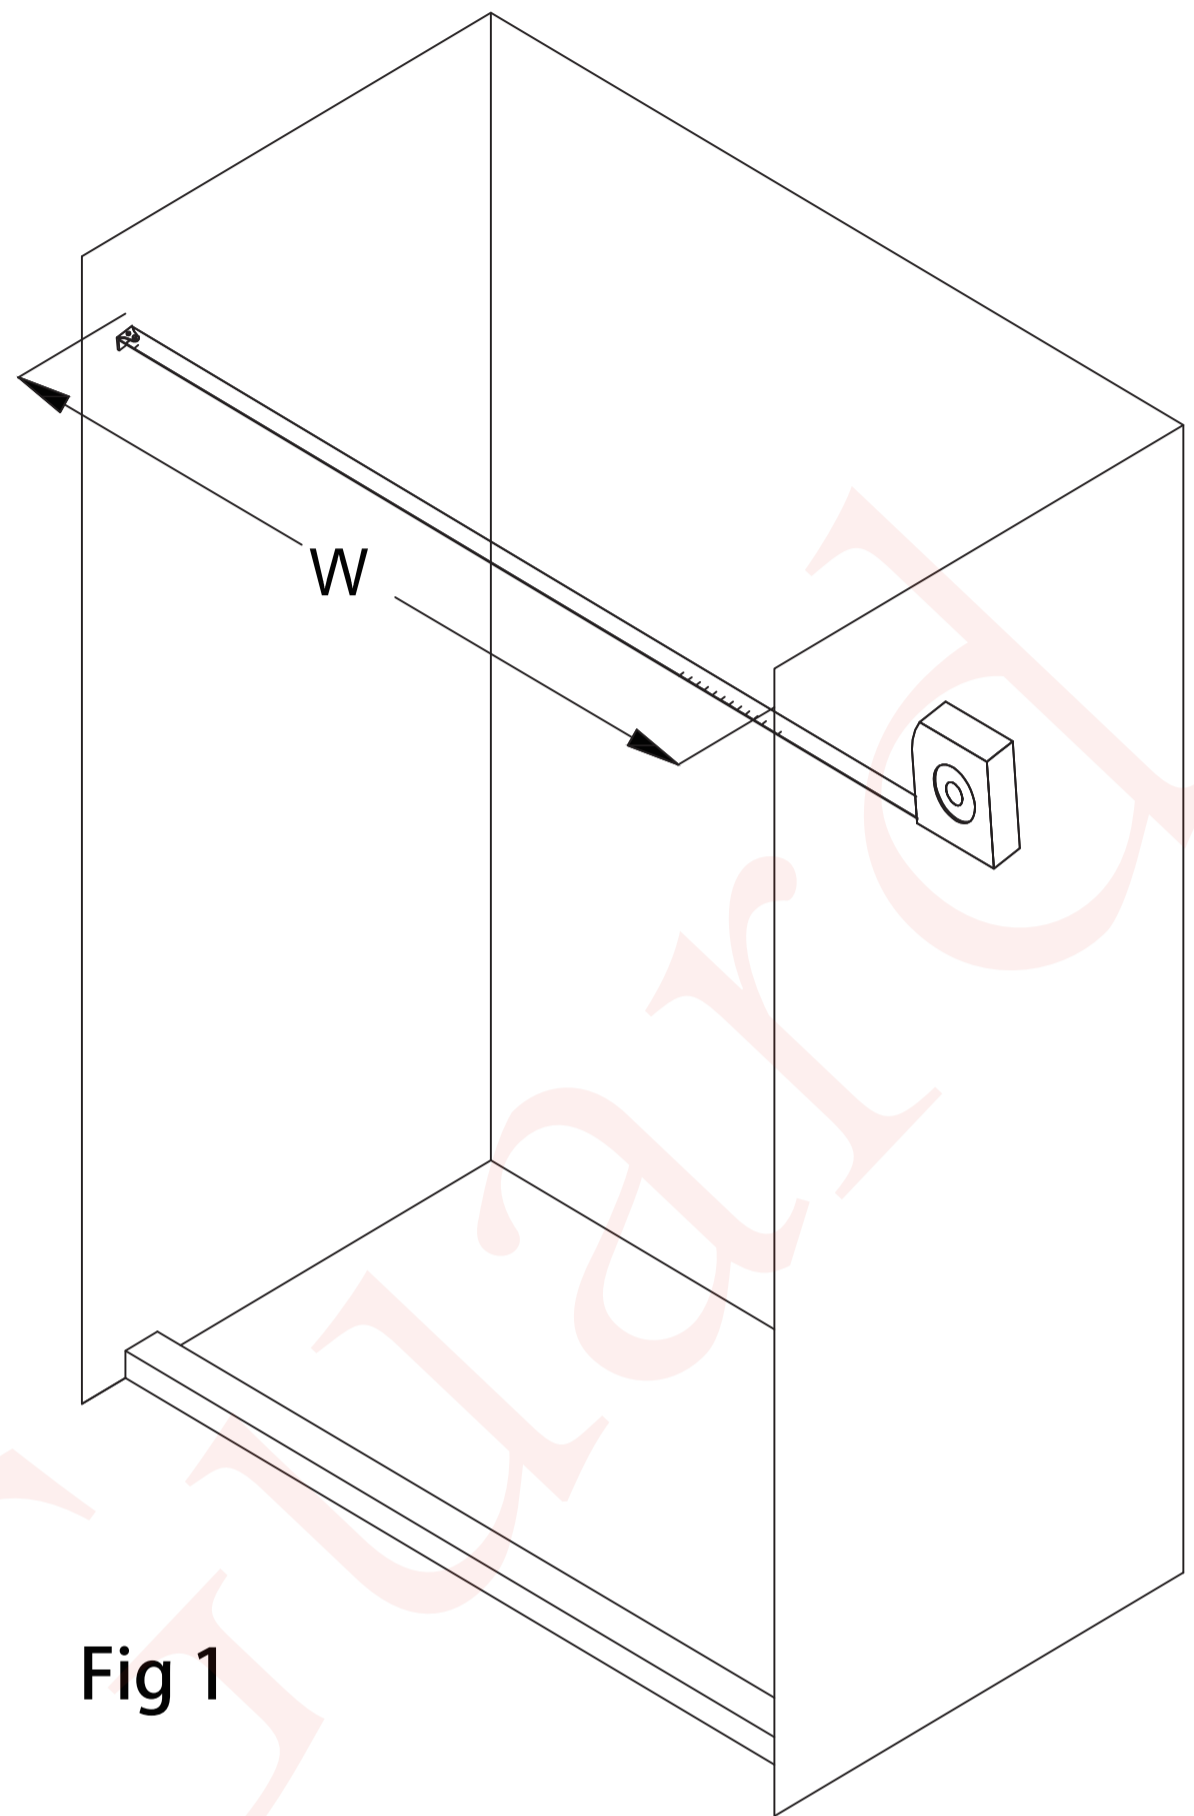

Fig 1
- 1 Measure the distance from the finished wall to the finished wall . This distance will represent the finished opening size “W” that will be used to calculate the finished cut dimension for the **Upper Guide Rail (I)**. (Fig 1)